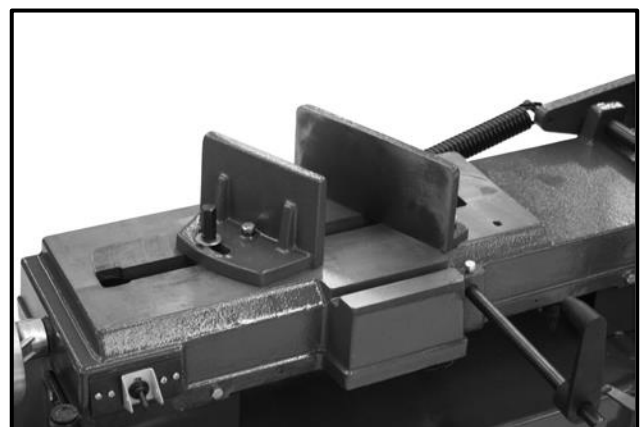

Figure-15 Setting the vise at 45-degree
2. Position the vise and re-install it to a 45-degree. See figure-15.
3. Adjust the moveable vise jaw parallel to the fixed jaw by loosening the bolt shown in figure-15, making it parallel and tightening the bolt.